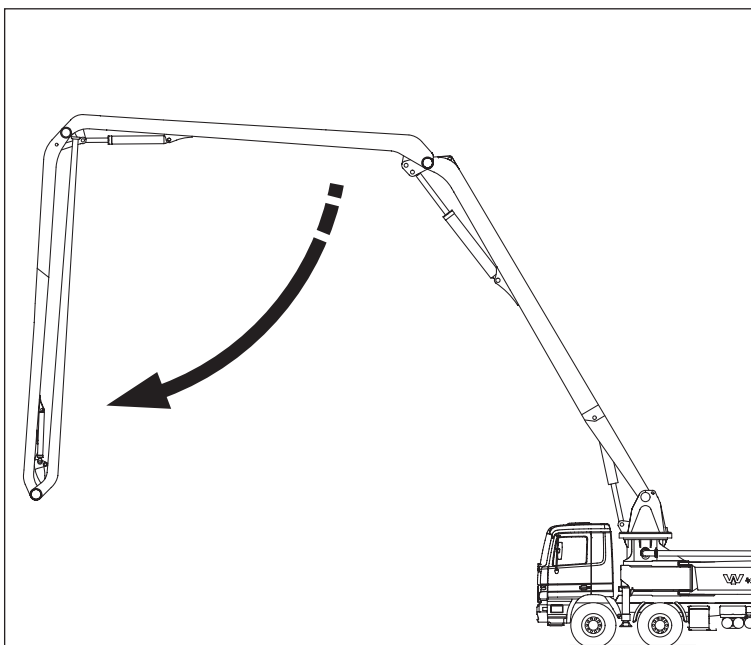

Fig. 7.15 Deploy boom element C
- Use the joystick “Deploy boom element C and D” (**1**) to deploy boom element C to 90° to boom element B (see Fig. 7.15).
- Use the joystick “Deploy boom element C and D” (**1**) to deploy boom element D to 90° to boom element C (see Fig. 7.15).
- Use the joystick “Deploy boom element C and D” (Item 1, Fig. 7.18) to deploy boom element C to 90° to boom element B (see Fig. 7.15).